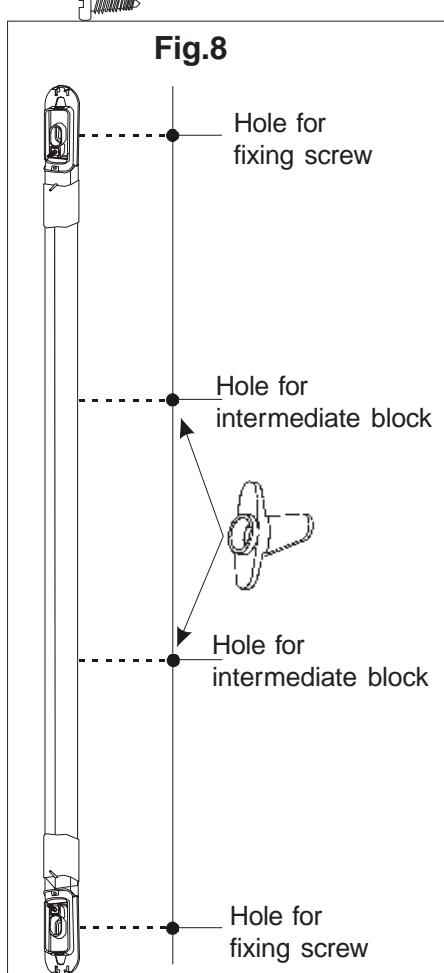

Fig.8
- After having marked the position of fixing screw holes, drill the holes necessary for the intermediate blocks (Figure 8).